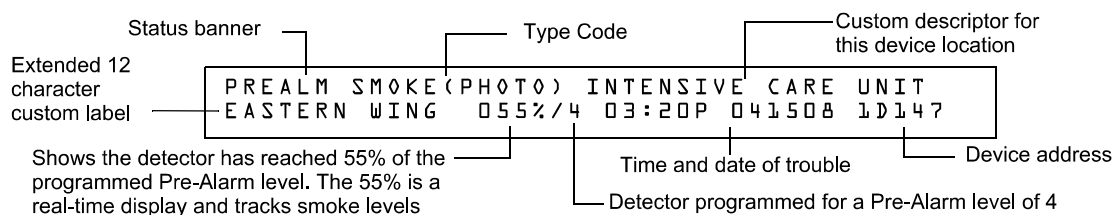

Figure 3.9 Sample of an Alert Pre-Alarm Message
- Displays a PREALARM status banner, the Type Code of the detector, and the Pre-Alarm level (Alert or Action) on the LCD display, along with information specific to the device as shown in Figure 3.9.